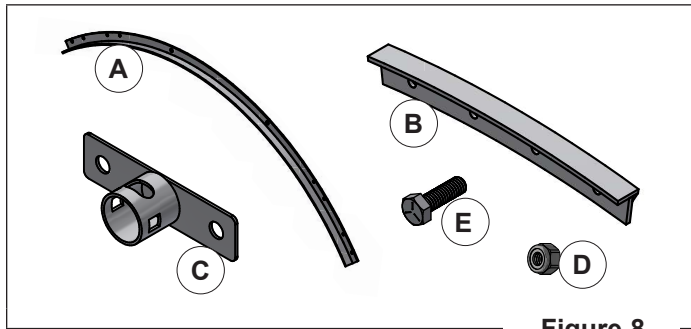

Figure 8
1. Locate required parts (Figure 8).